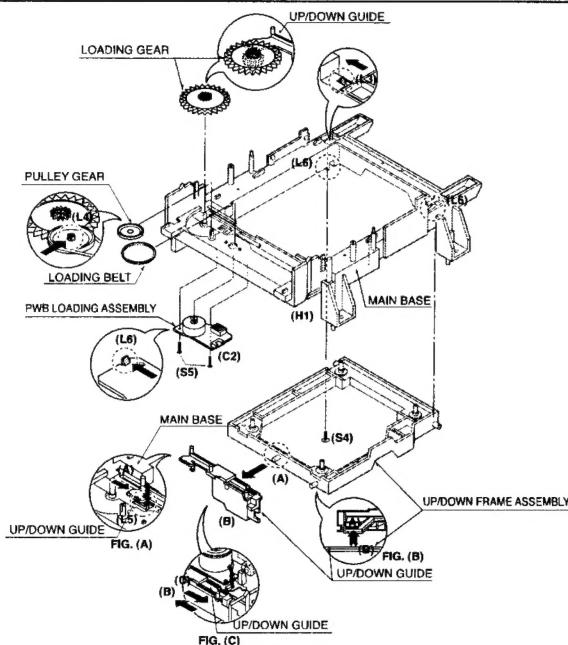

Fig. 5-4
5. Frame Assembly Up/Down (Fig. 5-4)
• When reassembling move the Guide Up/Down in direction of arrow(C) until it is positioned as Fig.(C).
• When reassembling insert (A) portion of the Frame Assembly Up/Down in the (B) portion of the Guide Up/Down as Fig.(B)
6. Belt Loading(Fig. 5-4)
7. Gear pulley (Fig. 5-4)
1) Unlock the Locking Tab(L4) in direction of arrow(B) and then separate the Gear Pulley from the Base Main.
8. Gear Loading (Fig. 5-4)
9. Guide Up/Down (Fig. 5-4)
10. PWB Assembly Loading (Fig. 5-4)
11. Base Main(Fig. 5-4)